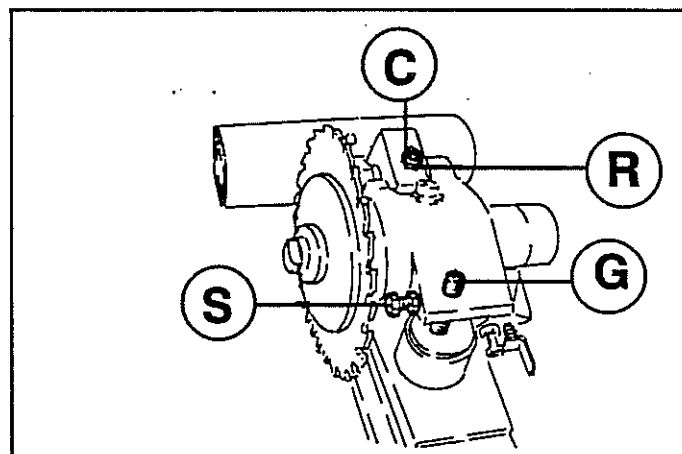

Fig.3.12
- 2- loosen grub screw (S fig.3.12)
- 3- unscrew grub screw (G), so that the scorer is lowered
- 4- rescrew grub screw (S)